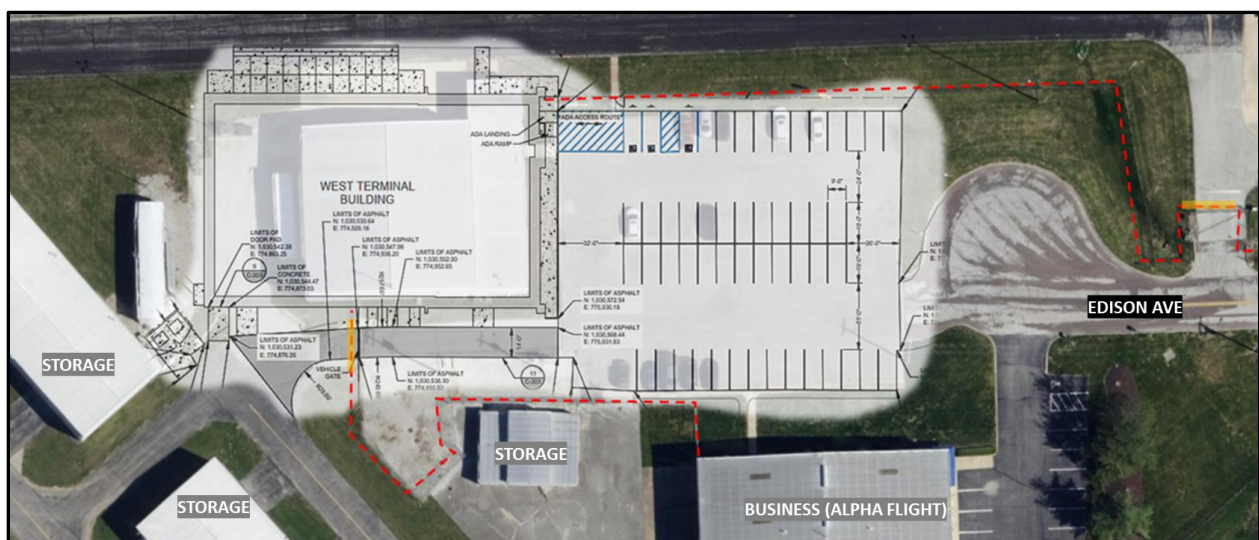

Figure 2: Site Plan, Fence (red), Gates (yellow)
The subject site will be accessed from the end cul-de-sac on Edison Avenue. The public will access the site from Edison Avenue, but will be restricted from entering the Spirit of St. Louis Airport property by two (2) existing gates, see highlighted yellow in Figure 2. Three (3) ADA parking stalls have been provided for in the northwest corner of the refinished parking area that will provide convenient access to the terminal building's lobby and reception area. The proposed concrete pad and trash enclosure have been situated internal to the airport and will not be accessible to the public. The storage section of the new building will open to the taxiway to the north and will make up the majority of the left side of the proposed structure; the business will make up the right side. The location of the existing chain-link fence and how it would adapt to the new construction has been outlined in red in Figure 2.